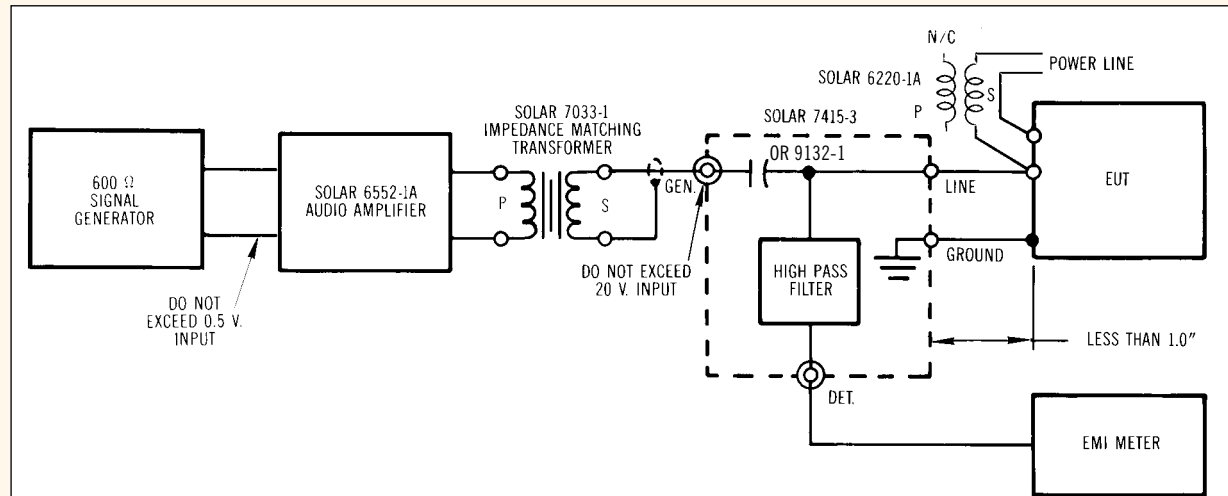
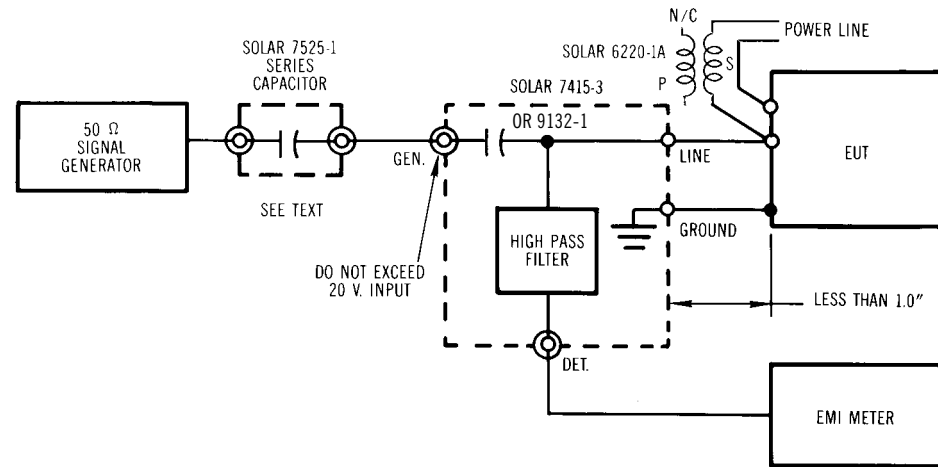

FIG. 1 TEST SETUP FOR FREQUENCIES FROM 50 KHz - 500 KHz
FIG. 2 TEST SETUP FOR FREQUENCIES FROM 500 KHz - 400 MHz
To avoid this, one suggestion is to use an isolating transformer at the output of a low impedance signal source. Figure 1 shows the use of the **Model 6552-1A Audio Amplifier** and the **Type 7033-1 Impedance Matching Transformer**. This arrangement can be used for injection levels up to 20 volts r.m.s. from 50 KHz to 500 KHz with satisfactory results.
At frequencies above 500 KHz, we recommend that a 50 ohm signal generator be used as indicated in Figure 2 except that a small capacitor must be connected in series between the generator and the **Type 7415-3 R.F. Coupler**.
- 2) If the connections to the power source are heavily by-passed as in the case of screen room testing, this will also shunt the injection voltage so that the required level cannot be reached. This can be prevented by inserting an inductor in the power line as indicated in Figure 1 and Figure 2. The secondary of the **Solar Type 6220-1A Transformer** can be used as this inductor.